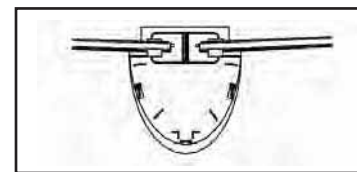
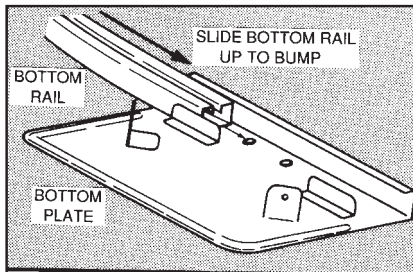

Fig. 34
Fig. 33
- The four 39" bottom rails are for the "corners." One side snaps into the straight side connector on the final straight side upright, while the other side slides into a bottom plate or bottom cuff as shown in Fig.33 or Fig.34.